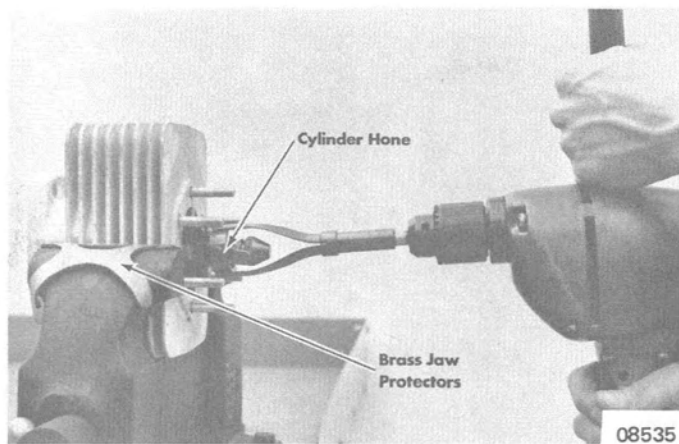

Figure 3. Honing Cylinder
1. Follow recommendations of the hone manufacturer (for correct usage of hone) and proper cleaning and lubrication during honing. (Figure 3)